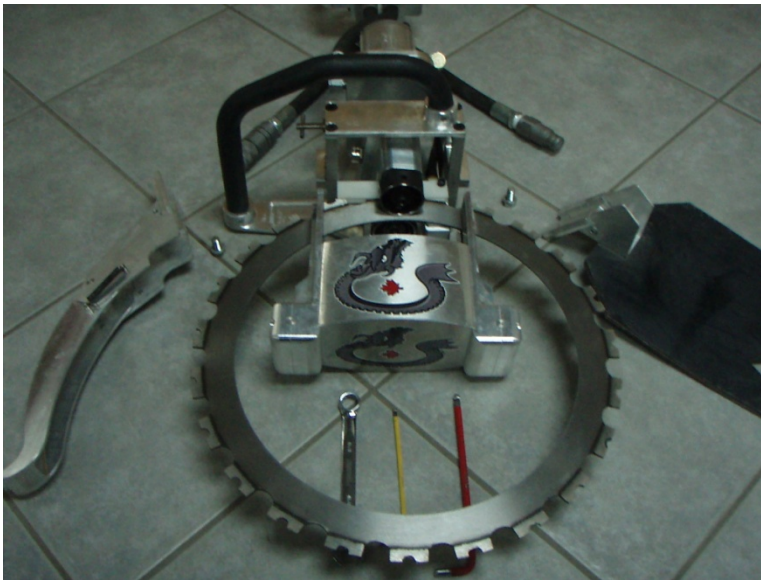

Figure 2
Step 2: Remove adjustable arm assembly (figure 2).